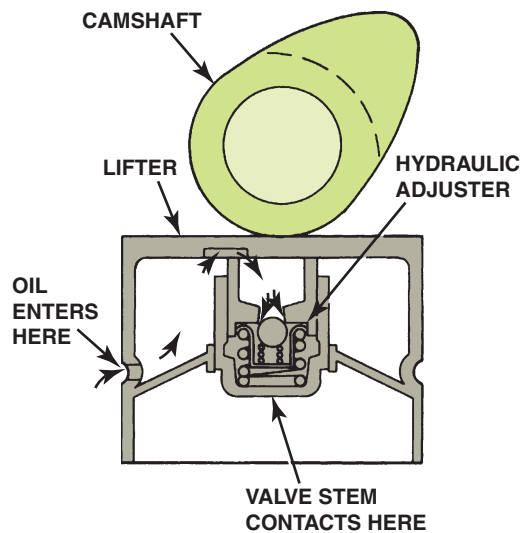

FIGURE 28-30 Hydraulic lifters may be built into bucket-type lifters on some overhead camshaft engines.
1. One type opens the valves directly with a **bucket**. ● **SEE FIGURE 28-30.**